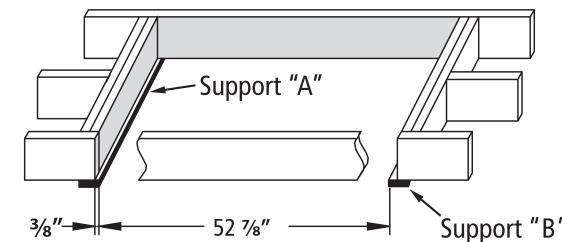

FIGURE 5: View from above
Support "A" should be located at the end where the door hinge of the ladder will go. The edge of support "A" should extend into the rough opening 3/8" as shown in Figure 5. Make sure both screws penetrate header above ceiling.
B. Measuring from the inside edge of support "A", locate and secure the inside edge of support "B" 52 7/8" from inside edge of support "A" (Figure 5). Make sure both screws penetrate header above ceiling.
Support "A" should be located at the end where the door hinge of the ladder will go. The edge of support "A" should extend into the rough opening $\frac{3}{8}$ " as shown in Figure 5. Make sure both screws penetrate header above ceiling.
B. Measuring from the inside edge of support "A", locate and secure the inside edge of support "B" from inside edge of support "A" (Figure 5). Make sure both screws penetrate header above ceiling.
Support "A" should be located at the end where the door hinge of the ladder will go. The edge of support "A" should extend into the rough opening 3/8" as shown in Figure 5. Make sure both screws
Support "A" should be located at the end where the door hinge of the ladder will go. The edge of support "A" should extend into the rough opening 3/8" as shown in Figure 5. Make
"B" from inside edge of support "A" (Figure 5). Make sure both screws penetrate header above ceiling.